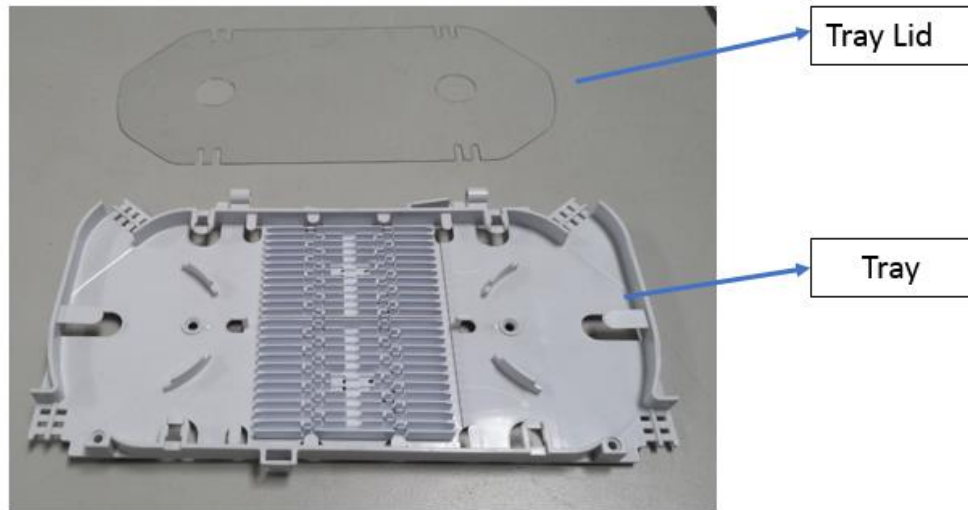

Figure 3
1. Remove the cover from the tray kit, also remove the film if there's film on the cover as shown Figure 3.